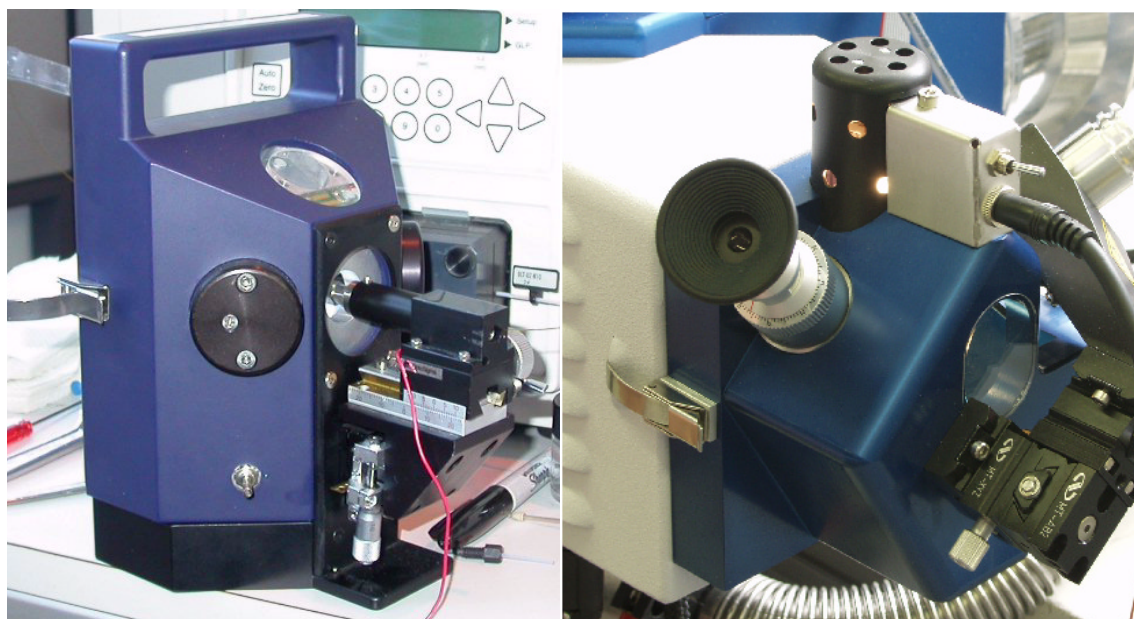

Figure 6-4 On-Axis (left) and Off-Axis (right) Nanospray Assemblies
- The **On-Axis Nanospray** assembly (left in Figure 6-4) includes an XYZ stage immediately in front of the spray chamber that accepts a needle assembly for on-line or off-line Nanospray applications. The unit features a camera and LCD screen for monitoring spray operation.
- The **Off-Axis Nanospray** assembly (right in Figure 6-4) delivers the analyte via an off-axis needle assembly. The Off-axis Nanospray assembly includes a microscope for monitoring.